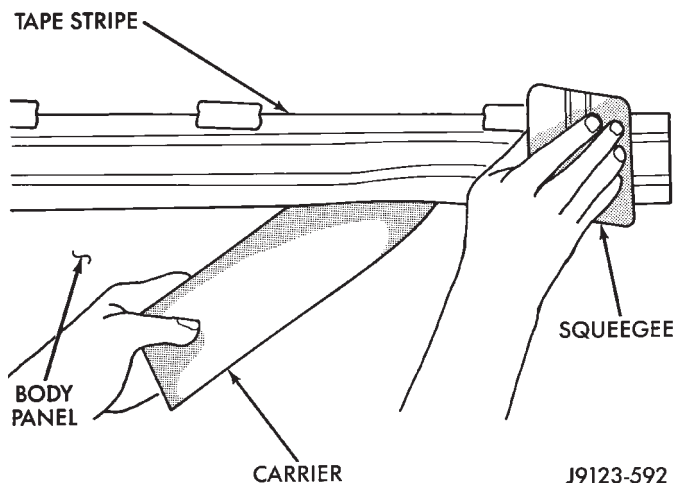

Fig. 63 Tape Stripe Application
(3) Apply soap solution liberally to adhesive back of overlay.
(4) Apply soap solution liberally to body panel surface.
(5) Place overlay into position on body panel. Smooth out wrinkles by pulling lightly on edges of overlay until it lays flat on painted surface.
(6) Push air pockets from under overlay to the perimeter of the panel from the center of the overlay out.
(7) Squeegee soap solution and air bubbles from behind overlay from the center of the panel out using a body putty applicator squeegee (Fig. 63).